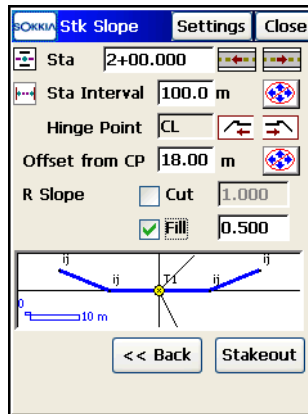

Figure 9-42. Stakeout Slope
- On the *Stk Slope* screen, set the properties of the cross-section at the stakeout station and the interval of the station increment, the hinge point (point of rotation for the Cut/Fill Slope lines) and the values of the Cut/Fill Slope parameters, and the offset from the catch point (the point where the slope crosses the surface of the terrain) (Figure 9-42).